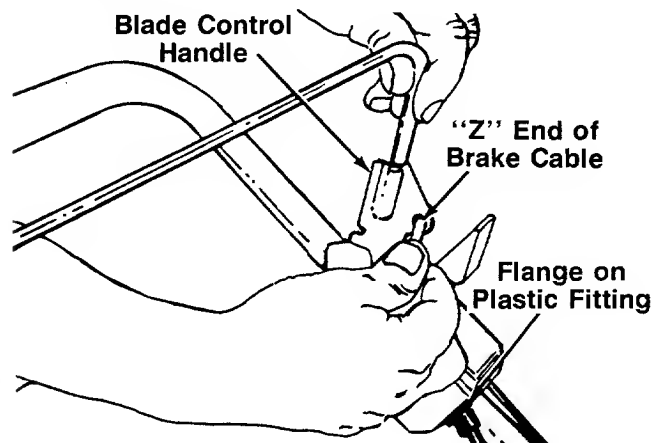

FIGURE 5.
- ← 3. Hook the "Z" end of the brake cable into the hole in the blade control handle from the inside to the outside as shown in figure 5.